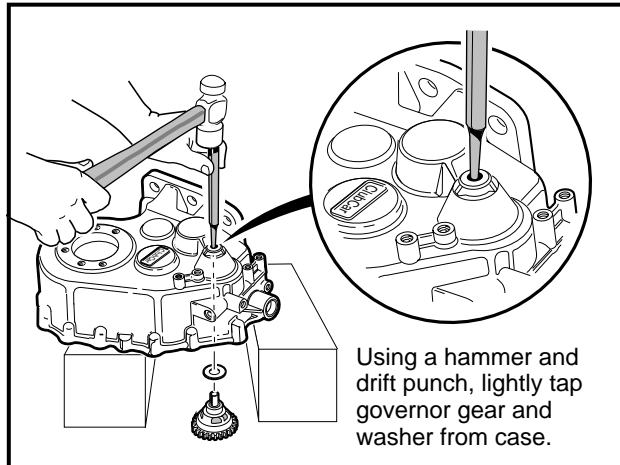

Figure 16-43 Remove Governor Gear
- 15.4. Remove the governor gear assembly (63 and 64) and flat washer (62) (**Figure 16-42, Page 16-18**) by lightly tapping the gear shaft through the case wall, from the outside, with a hammer and drift. **See also Figure 16-43, Page 16-19.**